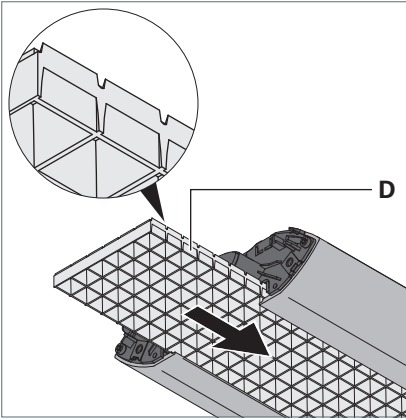

Fig. 20: Sliding in the parabolic grid.
- If the luminaire is equipped with a parabolic grid **D**: Slide the parabolic grid again into the luminaire such that the thin ligaments of the grid point into the direction of the light exit, see Fig. 20.